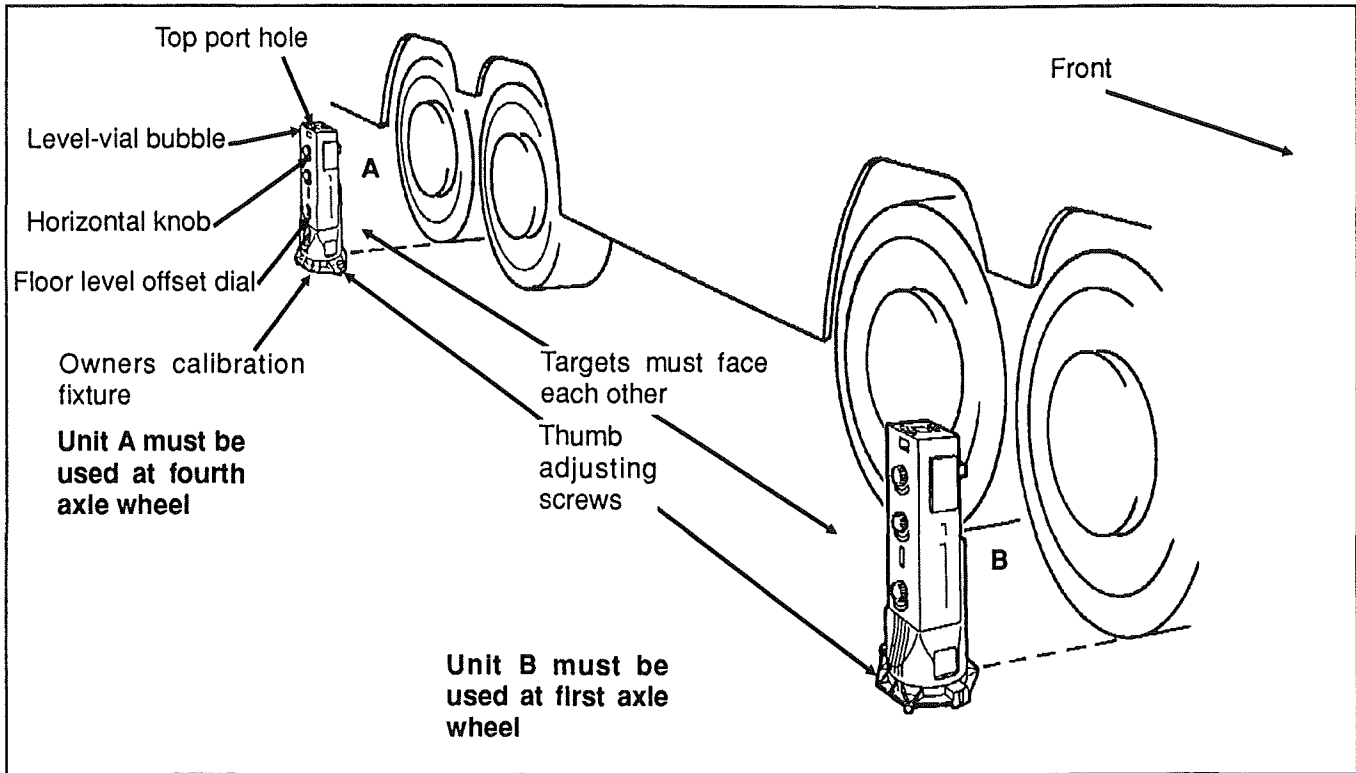
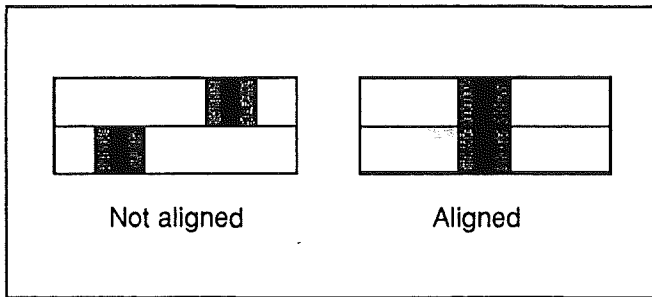

FIG. 38
FIG. 39
2. Fix one (1) calibration fixture to each aligner.
3. Install aligner in center of each wheel on one side of vehicle. Unit B must be installed besides the first (1) axle wheel with its viewing port facing rearward, and unit A besides the fourth (4) axle wheel with its viewing port facing forward. See figure 38 for more details.
**NOTE: Be sure that the three (3) indicators on each module are set to the zero point.**
5. Look through the top port hole of unit A, and turn horizontal knob until split images are aligned (see fig. 39).